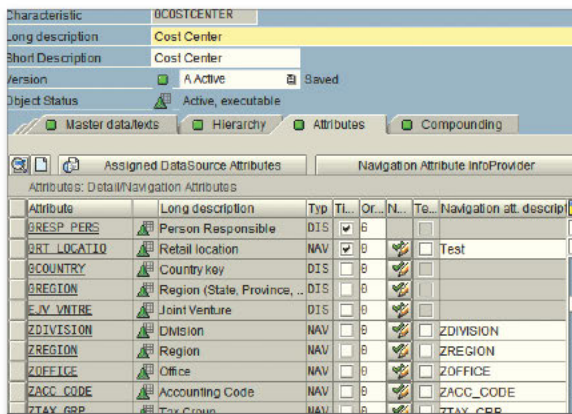

Figure 2 Adding New Navigational Attributes to the Cost Center InfoObject to Hold the Flattened Nodes
3. On the resulting screen shown in Figure 2, right-click on the InfoCube to create a new remodeling rule. In this screen, specify a technical name for the remodeling rule. In this example, we'll use the technical name "ZDEL_KF" for the new rule. You may also use this screen to display or edit an existing remodeling rule.
⤴ *Figure 2 Creating a New Remodeling Rule for the InfoCube*
4. Provide a short description for the rule (e.g., in Figure 2, we've entered "Rule for Removing KF"), and click on TRANSFER to continue.
1. In SAP NetWeaver BW, add additional attributes to 0COSTCENTER as shown in Figure 2. The new attributes are DIVISION, REGION, OFFICE, ACCOUNTING CODE, TAX GROUP, REGULATORY FIELD, PROPERTY CASE, and WELL NUMBER. The flattening program will flatten the hierarchy and save the values in the node to these attributes in 0COSTCENTER.